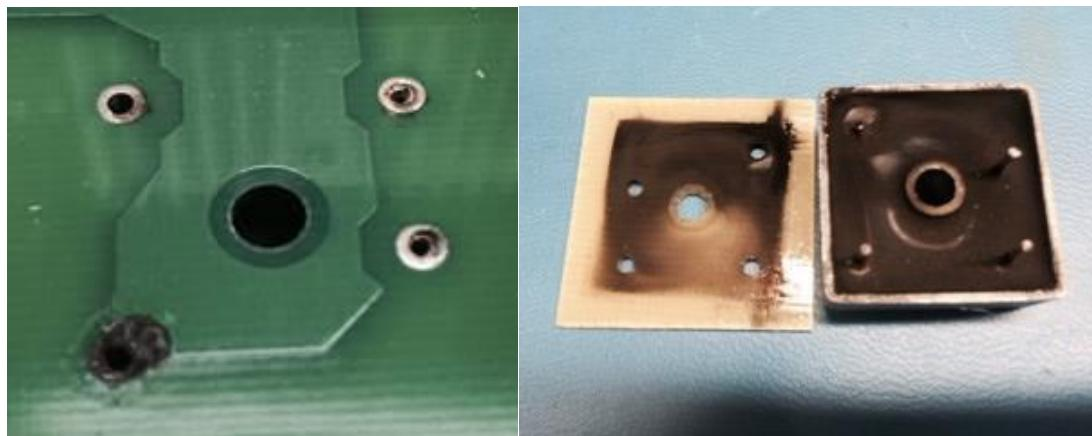

Figure 48 'Transfer' hole burnt
14. If control signal is missing, then PS5053CPU board has to be checked. Measure if the OSC simmer control signal exist on PS5053CPU board (Figure 48). If it exists - when channel is switched on, voltage changes from +15V to ~0V (using oscilloscope is more convenient). Then it means that control cable is broken somewhere. If signal does not exist - something is broken in PS5053CPU board. In this case power supply has to be shipped to EKSPLA. CPU board replacement is not straightforward; it requires whole power supply re-tuning.